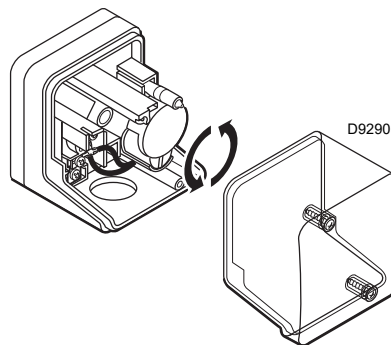

Fig. 26
- Adjust the low gas pressure switch to the start of the scale (Fig. 26).